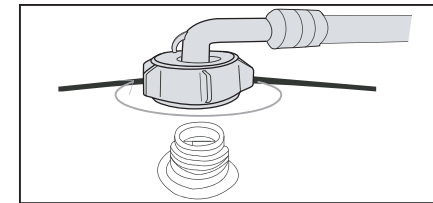

Fig8
**2:**The straight connection attaches to the water supply valve.(Fig 8)